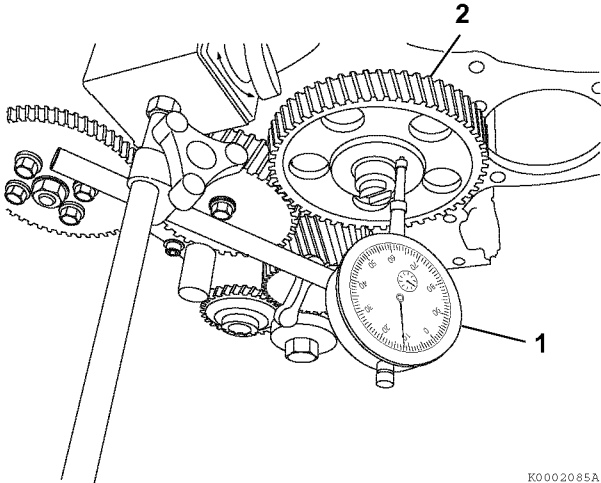

Figure 6-48
- **Method A:** Install a dial indicator (**Figure 6-48, (1)**) on the cylinder block. Move the camshaft (**Figure 6-48, (2)**) back and forth to measure the end play. Record the measurement. See *Camshaft* on page 6-6 for the service limit.